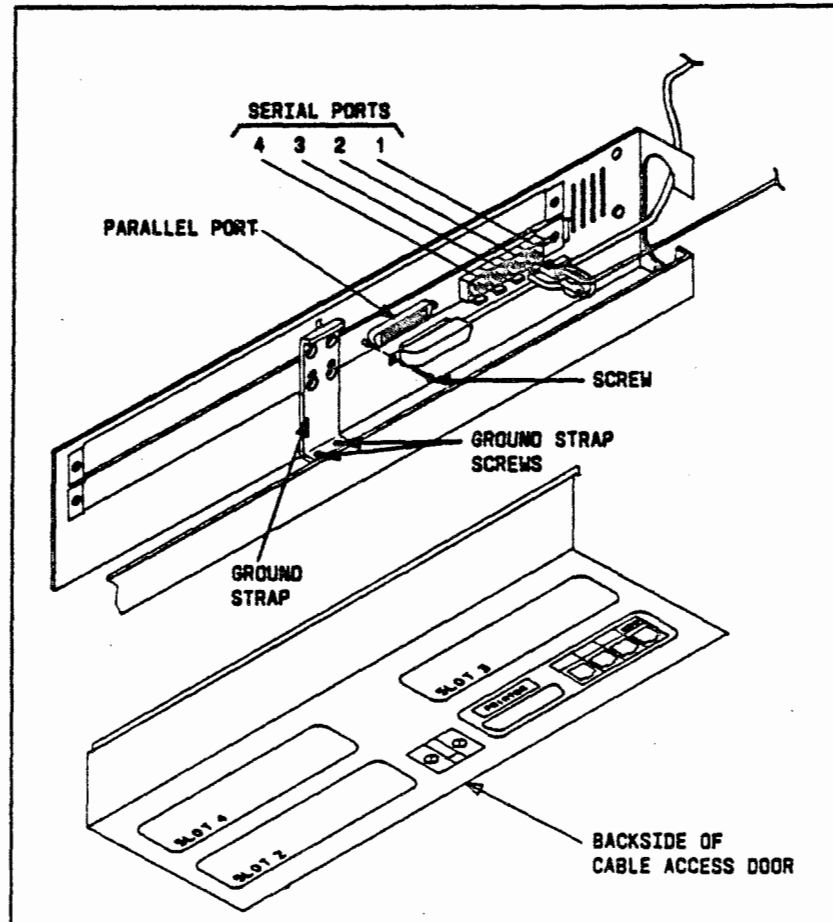

Figure 4-3. Disconnecting Parallel Port Plug
Before removing any feature card cables, make sure that all the cables are labeled and that feature card labels are on the cable access door. (See Figure 4-3.) If different types of feature cards are installed, you may encounter different types of plugs going to the feature cards. These plugs will require different techniques to remove them.
- B. **Parallel Port Plug**—To remove the plug going to a parallel port jack, you need to remove the screw used to secure the adapter plug to the parallel port jack. (See Figure 4-3.)
1. Remove and save the two screws holding the ground strap to the chassis. (See Figure 4-3.)